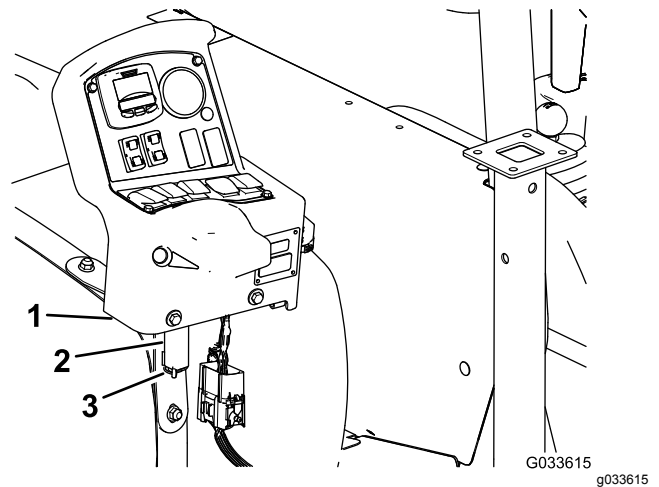

Figure 132
7. Remove the console from the console-mounting bracket at the dash of the machine and align the pivot pin on the control console with the storage bracket at the front tank strap (Figure 132); refer to Installing the Control Console to the Machine \(page 19\).
8. Assemble the console to the bracket and secure the pivot pin to the bracket with the hairpin (Figure 132).